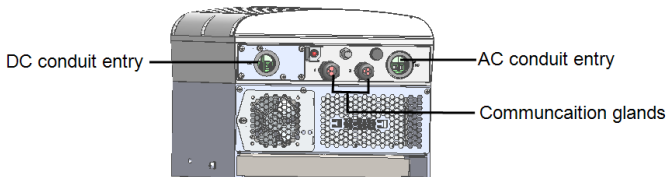

Figure 51: Primary Unit interface
1. Connect the DC, as follows, see *Figure 51*: